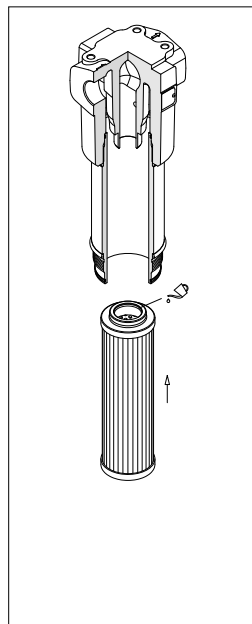

fig. 11
- (Fig. 11) Lubricate with the operating fluid the filter element O-ring, then fit the filter element on the tap. Pay attention not to damage the O-ring seal